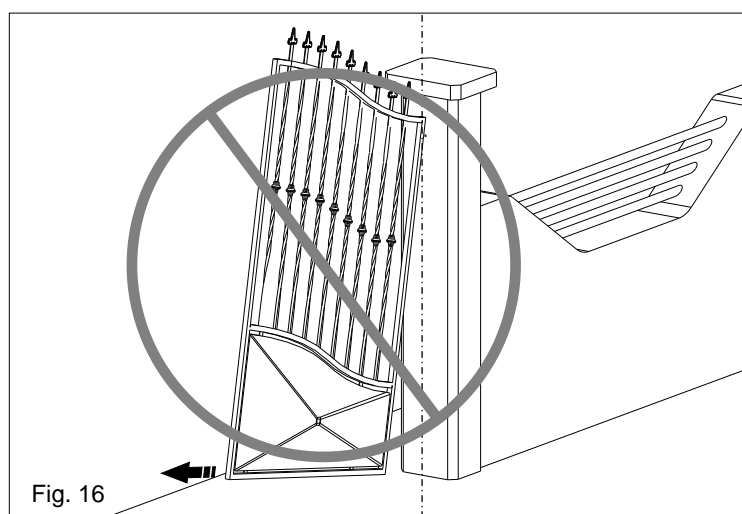
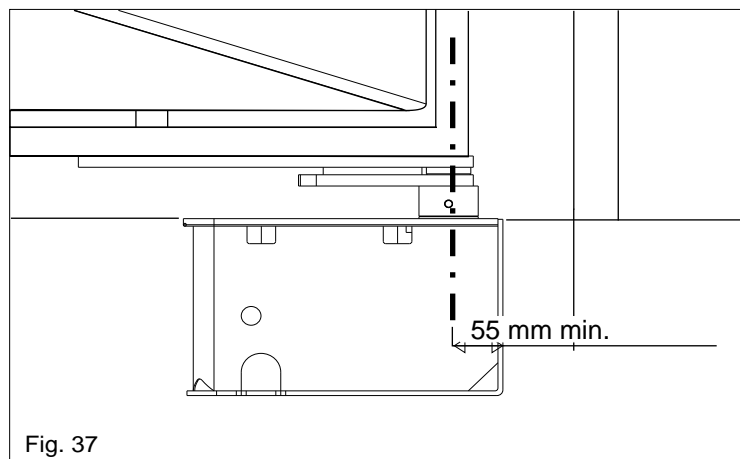

Fig. 16
Fig. 37
4.3. Be careful not to place the leaf outside the axis (Fig. 16 and 17) and make sure that the shaft corresponds to the rotation axis of the jack.
11.3. Be careful not to place the leaf outside the axis (Fig. 16 and 17), but make sure the shaft corresponds to the hinge rotation axis remembering that the minimum distance from the pillar is 55 mm (Fig. 37).